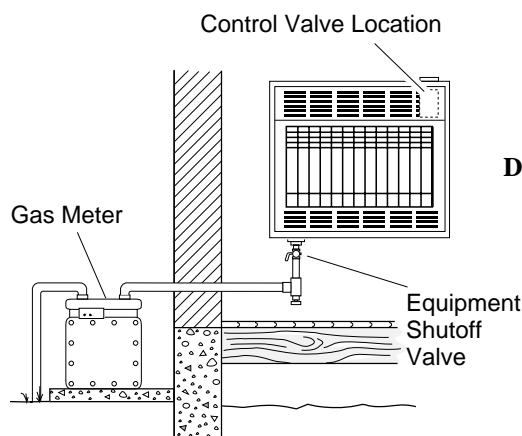

Figure 14 - Checking Gas Joints
3. Check all joints from gas meter to equipment shutoff valve (see Figure 14). Apply mixture of liquid soap and water to gas joints. Bubbles forming show a leak.
4. Check all joints from equipment shutoff valve to control valve (see Figure 14). Apply mixture of liquid soap and water to gas joints. Bubbles forming show a leak.